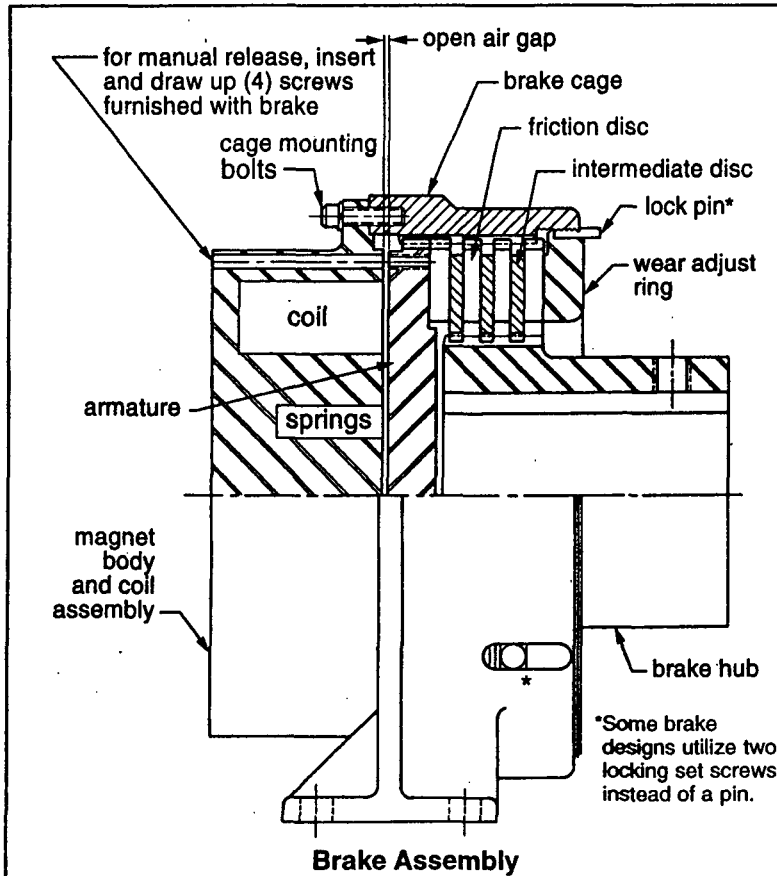

Figure 1
9. Replace friction discs and intermediate discs in order shown in Figure 1. Mount magnet body and armature to cage making certain that arrows, metal stamped on each part are in line. (**Note:** (1) hole is 1/4" offset) and tighten cage mounting screws.
10. Connect lead wires, energize unit and remove (4) manual release screws.